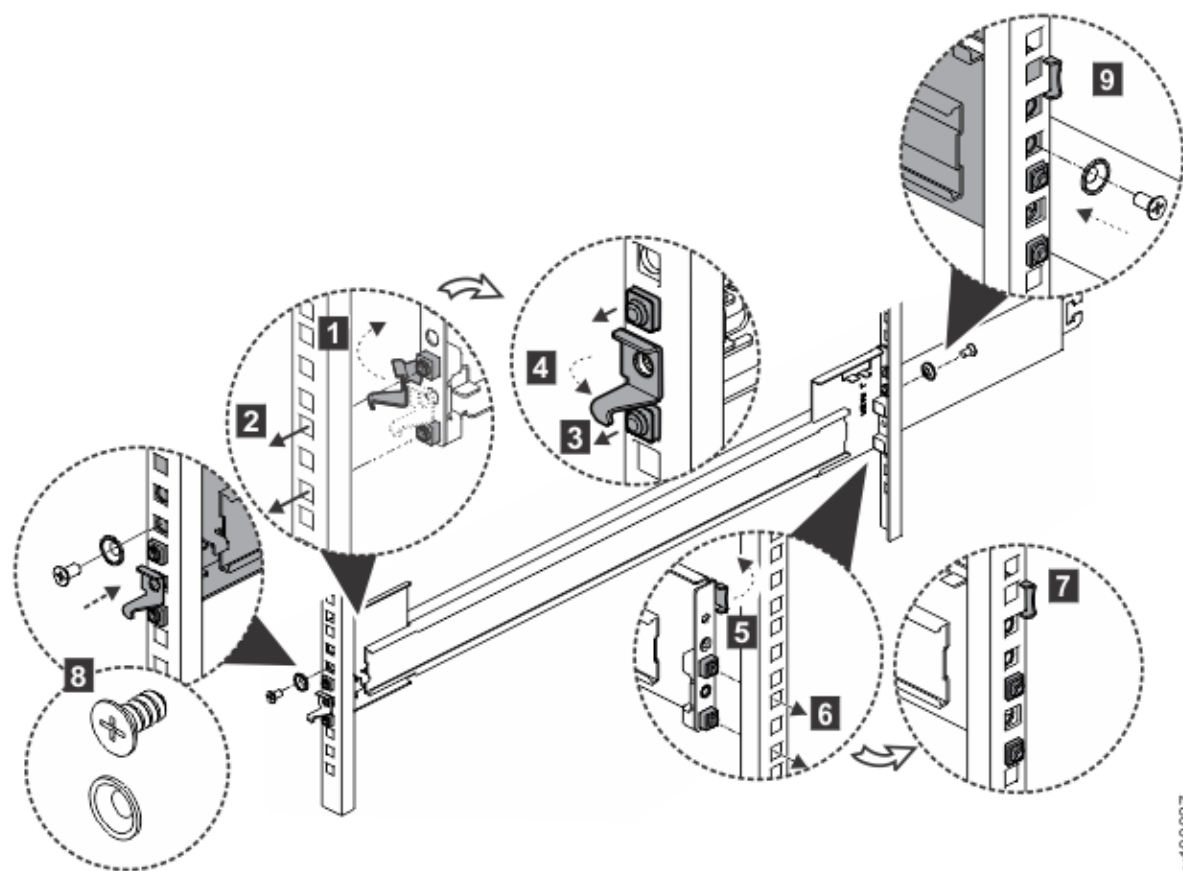

Figure 24. Install the bracket assembly to the frame
- a) Open the front latch hook (1).
- b) Fit the tool-less rail-mounting pin to the front rack post (2).
- c) Click the rail-mounting pin into place (3).
- d) Close the front latch hook (4).
7. Install the outer section of the rail to the rear frame, as shown in Figure 24 on page 22.
- a) Open the rear latch hook (5).
- b) Click the rear bracket into place on the rear frame (6).
- c) Close the rear latch hook (7).
8. Using an M5 x 10 mm screw and M5 washer, anchor the front bracket to the front frame (8).
9. Using an M5 x 10 mm screw and M5 washer, anchor the rear bracket to the rear frame (9).